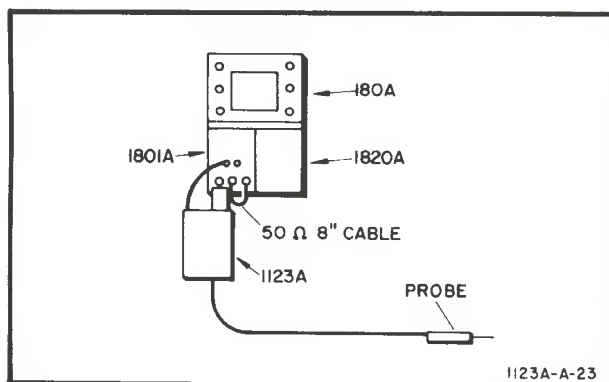

Figure 5-8. Noise Test Set-up
- Connect the equipment as shown in Figure 5-8.